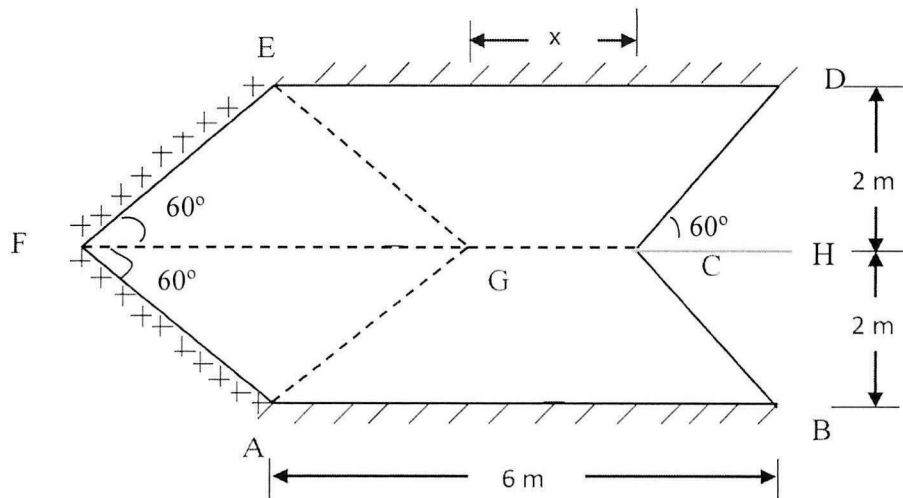

FIGURE Q4(b)
- (b) **Figure Q4(b)** shows an isotropic slab, simply supported at edge AB and DE, and fixed at edge EF and AF. The slab sustains uniform distributed load of 15 kN/m². The negative resistance moment, m' is equal to positive resistance moment, m . The distance x is from point G to point C. Distance GC is equal to CH. Determine the maximum resistance moment for the yield line shown. (19 marks)